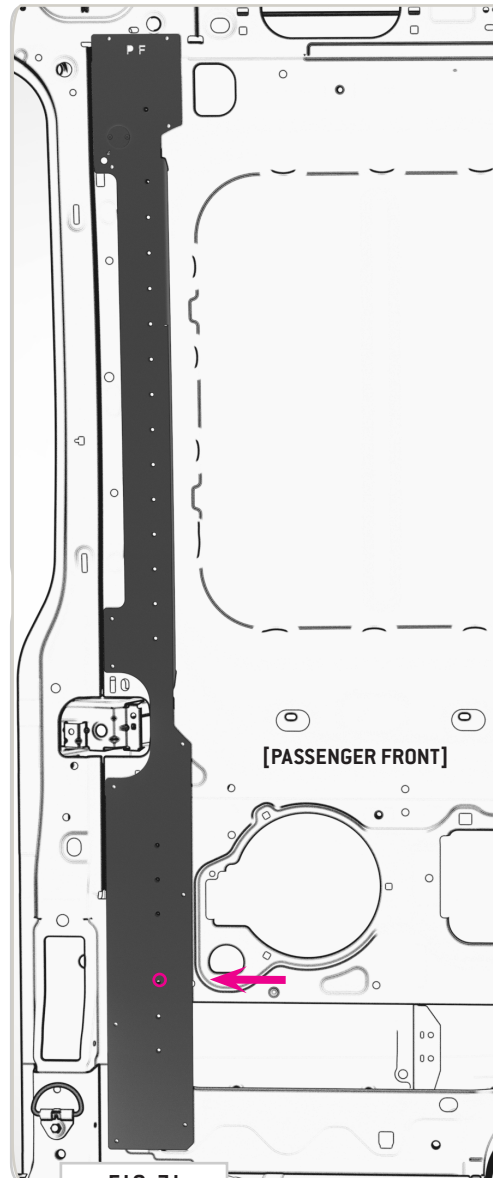
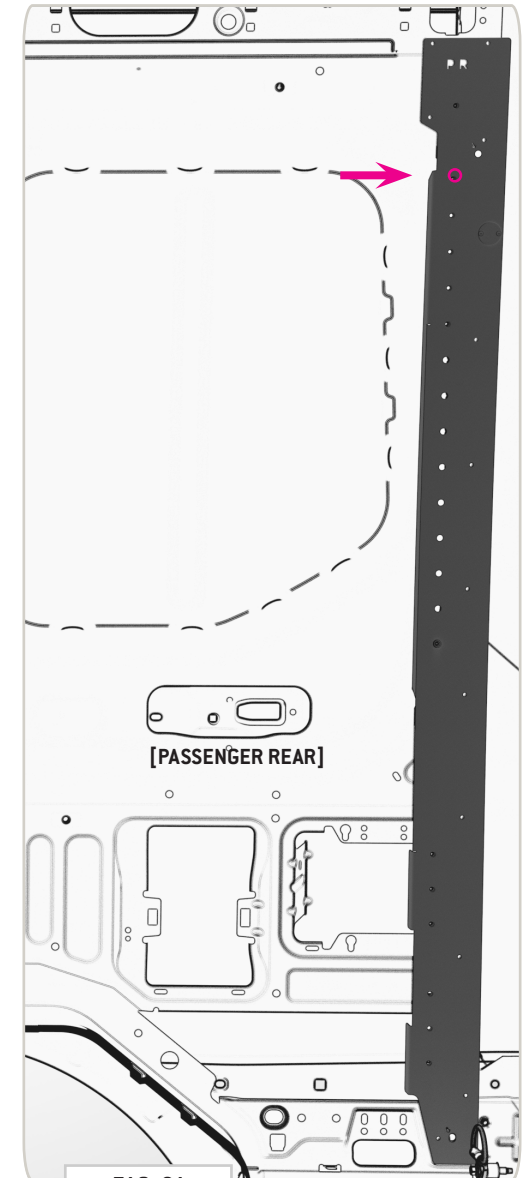

FIG 7b
FIG 8b
**NOTE** - There are additional **1/4-20 X 0.75 Flat Head Hex Drive Screws** to use in the highlighted locations shown in **FIG 7b** and **FIG 8b**.